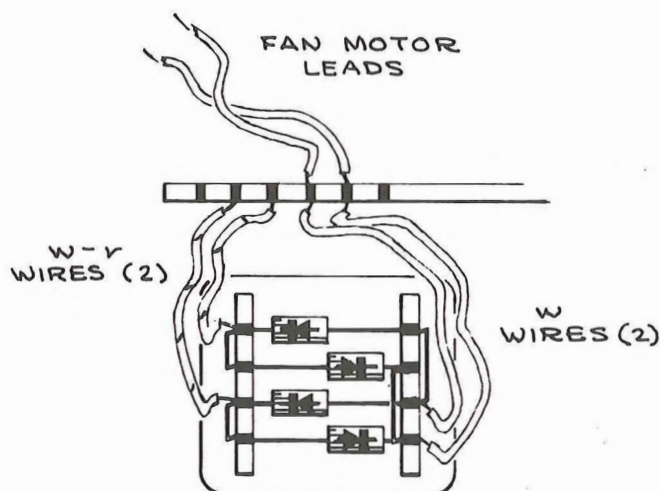

FIG. 1
- ## A. TO REPLACE SELENIUM RECTIFIER IN THE FOLLOWING INSTRUMENTS: See Fig. 1